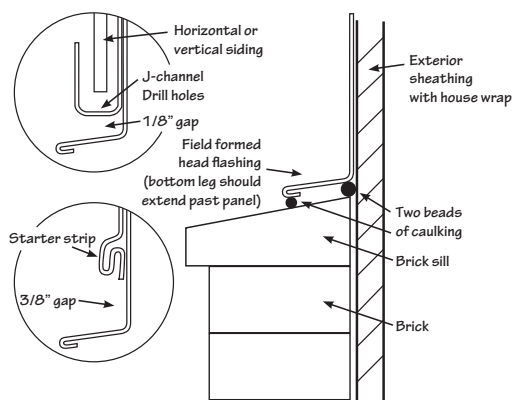

Figure 51.
- Caulk where the sheathing meets the brick sill. A head flashing (or drip cap) should be field formed and installed, then caulked where it meets the brick sill (Fig. 51).